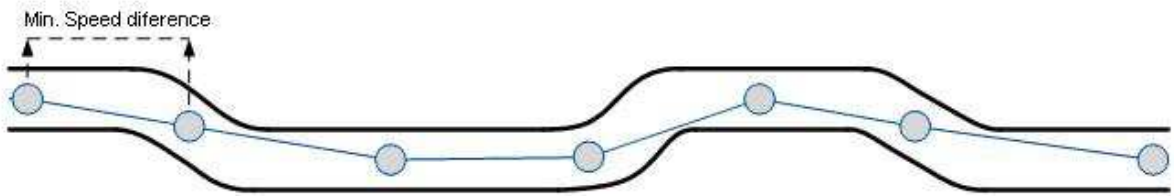

Figure 59 Speed based tracking
**Speed based data acquiring** (Figure 59) – records are being acquired when speed difference between last recorded coordinate and current position is greater than the defined value. Entering zero disables data acquisition depending on speed. This method is suitable for urban territories. Min speed source can be selected by GPS speed, LVCAN speed, ALLCAN speed, FMS Speed or KLINE speed